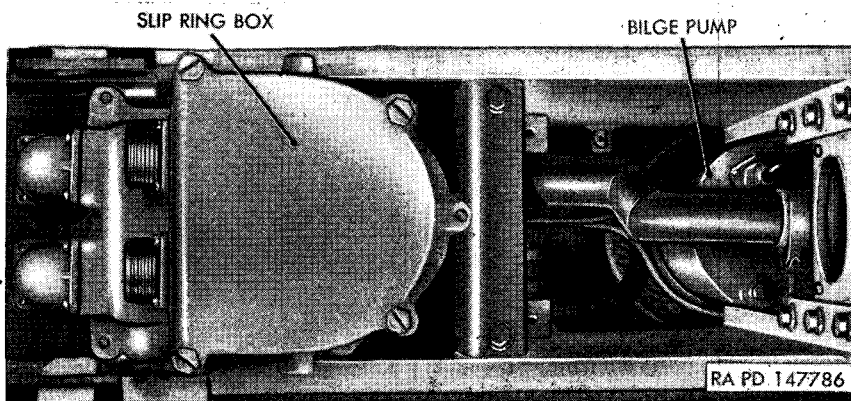

Figure 305. Slip ring box and front bilge pump—installed view.
b. INSTALLATION. Position slip ring box to bottom of floor recess (fig. 305) and secure with four cap screws and lock washers. Install yoke and turning arm. Secure arm with two jam nuts and two nuts. Connect ground strap to top of box with two cap screws and lock washers. Secure ground cable to side of box (fig. 306) with screw and lock washer. Connect four cable connector plugs to receptacles on turret slip ring box (fig. 307).